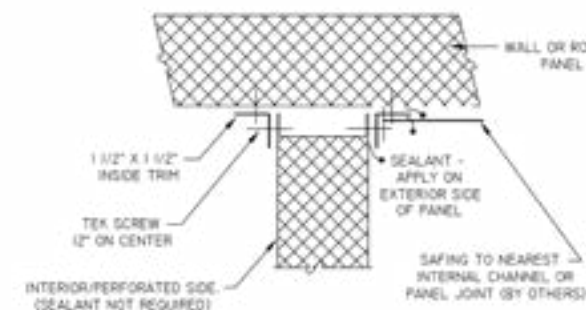

FIGURE 8
- 2) Install inside trim where interior wall panels meet exterior wall panels. (FIGURE 8) Sealant is not required for trim pieces that are joined to interior, perforated panel skin. (FIGURE 8)